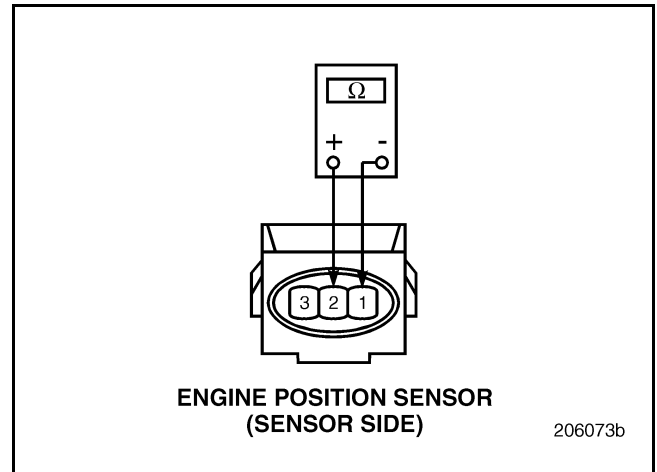

Figure 392
2. Disconnect the Engine Position (EP) Sensor.
3. Measure the resistance between terminals 1 and 2 on the Engine Position (EP) Sensor (see Figure 392).